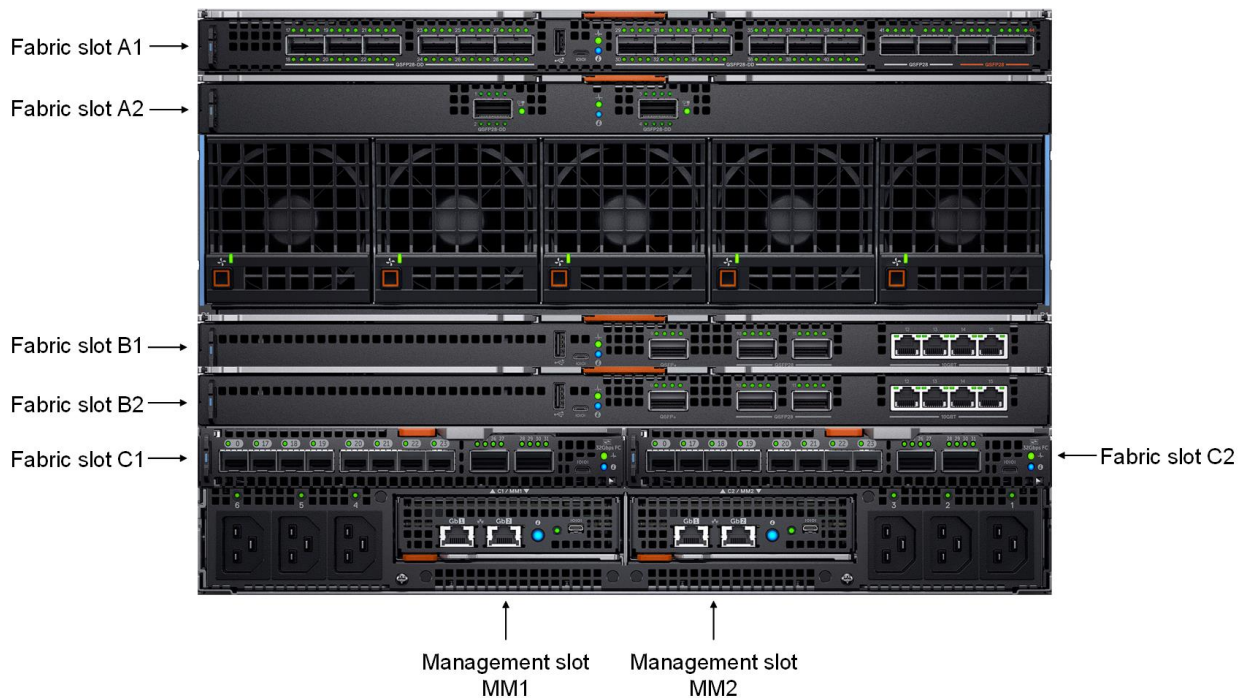

Figure 6 Dell EMC PowerEdge MX7000 – rear
The MX7000 includes three I/O fabrics. Fabrics A and B are for Ethernet and future I/O module connectivity, and Fabric C is for SAS and Fibre Channel (FC) connectivity. Each fabric provides two slots to provide redundancy. Figure 6 shows the rear of the PowerEdge MX7000 chassis. From top to bottom the chassis is configured with: